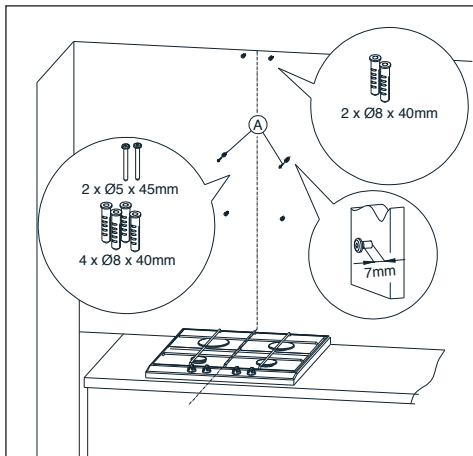

Fig.11 Screw plugs assembly
2. Into the openings, insert the screw plugs. In two openings marked with A screw also the screws (leaving 7 mm of screw length outside the screw plug, Fig.11).